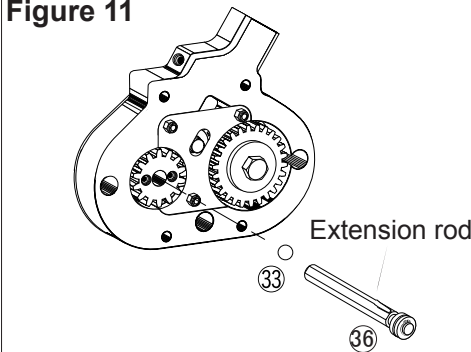

Figure 12
22. See Figure 12. Install two dowel pins to the side cover.